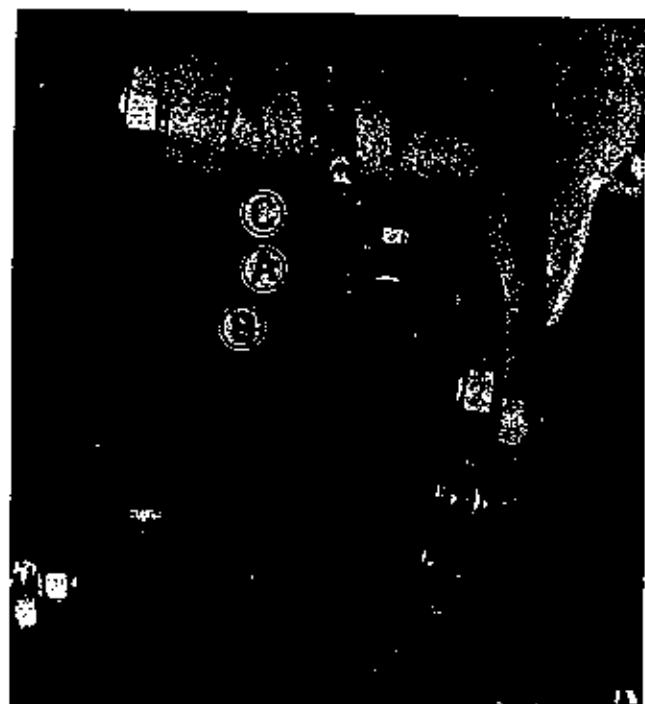

Figure 16. Power take off safety start switch.
2. See figure 16. Locate the safety switch (A) which is located under the tractor frame.
3. See figure 16. The safety switch can be moved up or down by turning the two nuts (A) clockwise or counter-clockwise or forward or back by sliding it in the slot in mounting bracket (B).
4. Adjust the safety switch so it is centered on the cam surface (C) and the end of the switch moves about $1/8"$ when the power take off control lever is moved from the disengaged to the engaged position.
5. Tighten the two nuts (A) against the mounting bracket (B).